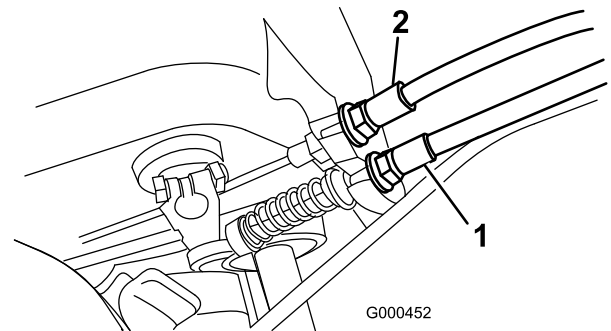

Figure 42
2. To increase cable tension, loosen front cable jam nut and tighten back cable jam nut (Figure 42) until a force of 12-16 lb. is required to engage traction control.